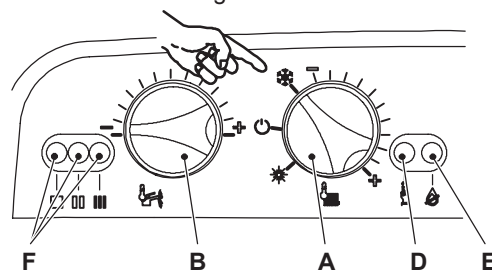

Figure 10.18
- 10 Turn the boiler OFF and ON positioning the function selector knob A as indicated in Figure 10.18